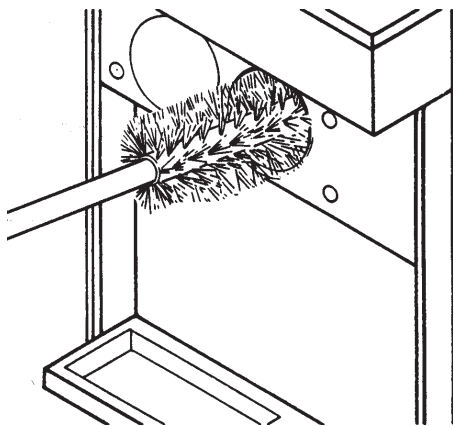

Figure 26. Cleaning Freezer Barrel
B. Wash the hopper and freezer barrel with warm detergent water and brush provided (Fig. 26).